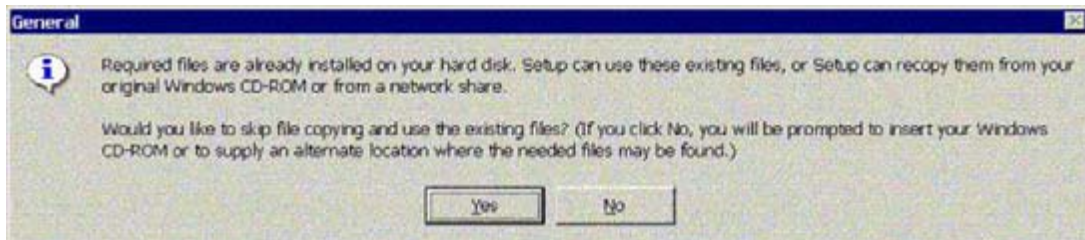

Fig. 15: Required files already installed
- If **Required files are ...** appears (Fig. 15 / p. 18), confirm with **Yes**.